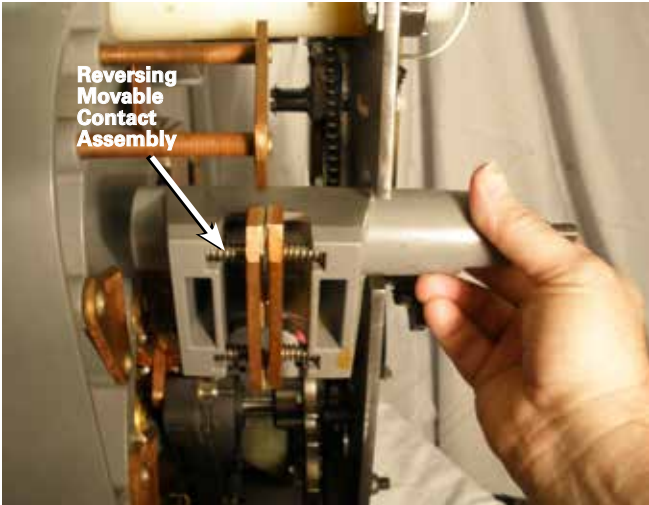

Figure 11. Rotating of reversing movable contact.
- Rotate the reversing movable contact counter clockwise until the movable contact assembly disengages from the reversing neutral stationary contact and remove it from the tap-changer. See Figure 11.